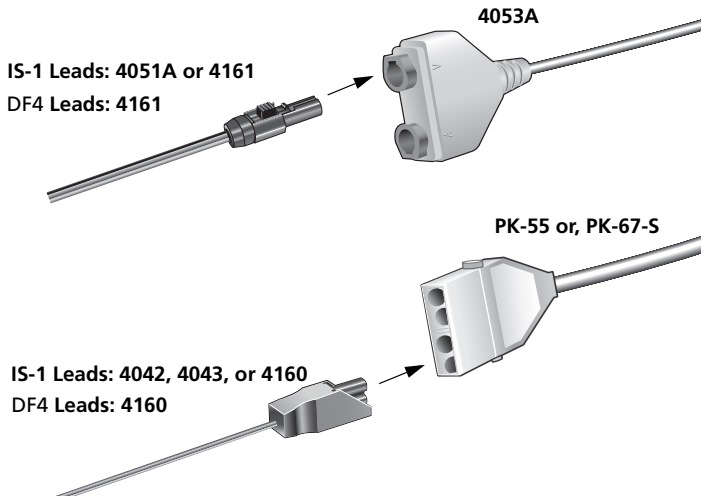

Figure 2-4. Connect the single-use Patient Cable to the Patient-Cable Adapter
2. Connect the sterile patient cable to the patient-cable adapter (Figure 2-4).